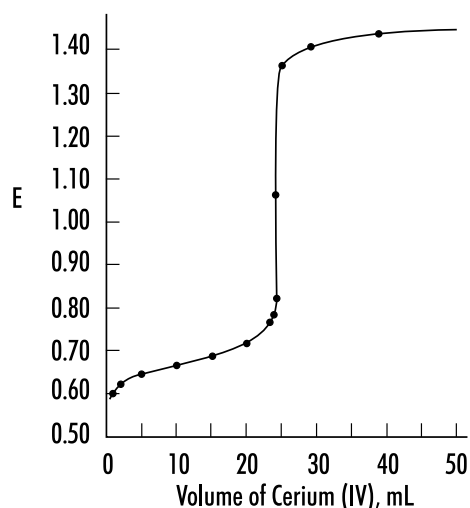

Figure 8: Redox titration
There are a number of oxidation-reduction reactions that can be used to determine unknown concentration by titration. If the reaction goes to completion, is fast and has an analytical signal available to follow it, a titration can be performed. The term "fast" means that each addition of titrant is reacted completely and the sensing electrode is able to detect the change in solution in less than one second. **Figure 8**, Redox titration, shows an example of a redox titration using Cerium (IV) as a titrant.